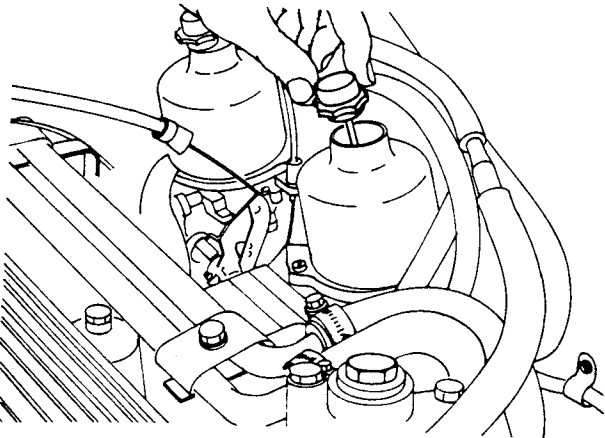

Fig B6.4
7. Refer to Fig B6.4. At first service (1 500 km) and every 10 000 km or 6 months thereafter unscrew the cap on top of the suction chamber and withdraw the hydraulic damper. Replenish the damper reservoir as necessary with SAE 20 oil to within about 12 mm from the top of the tube. Replace the cap and damper.